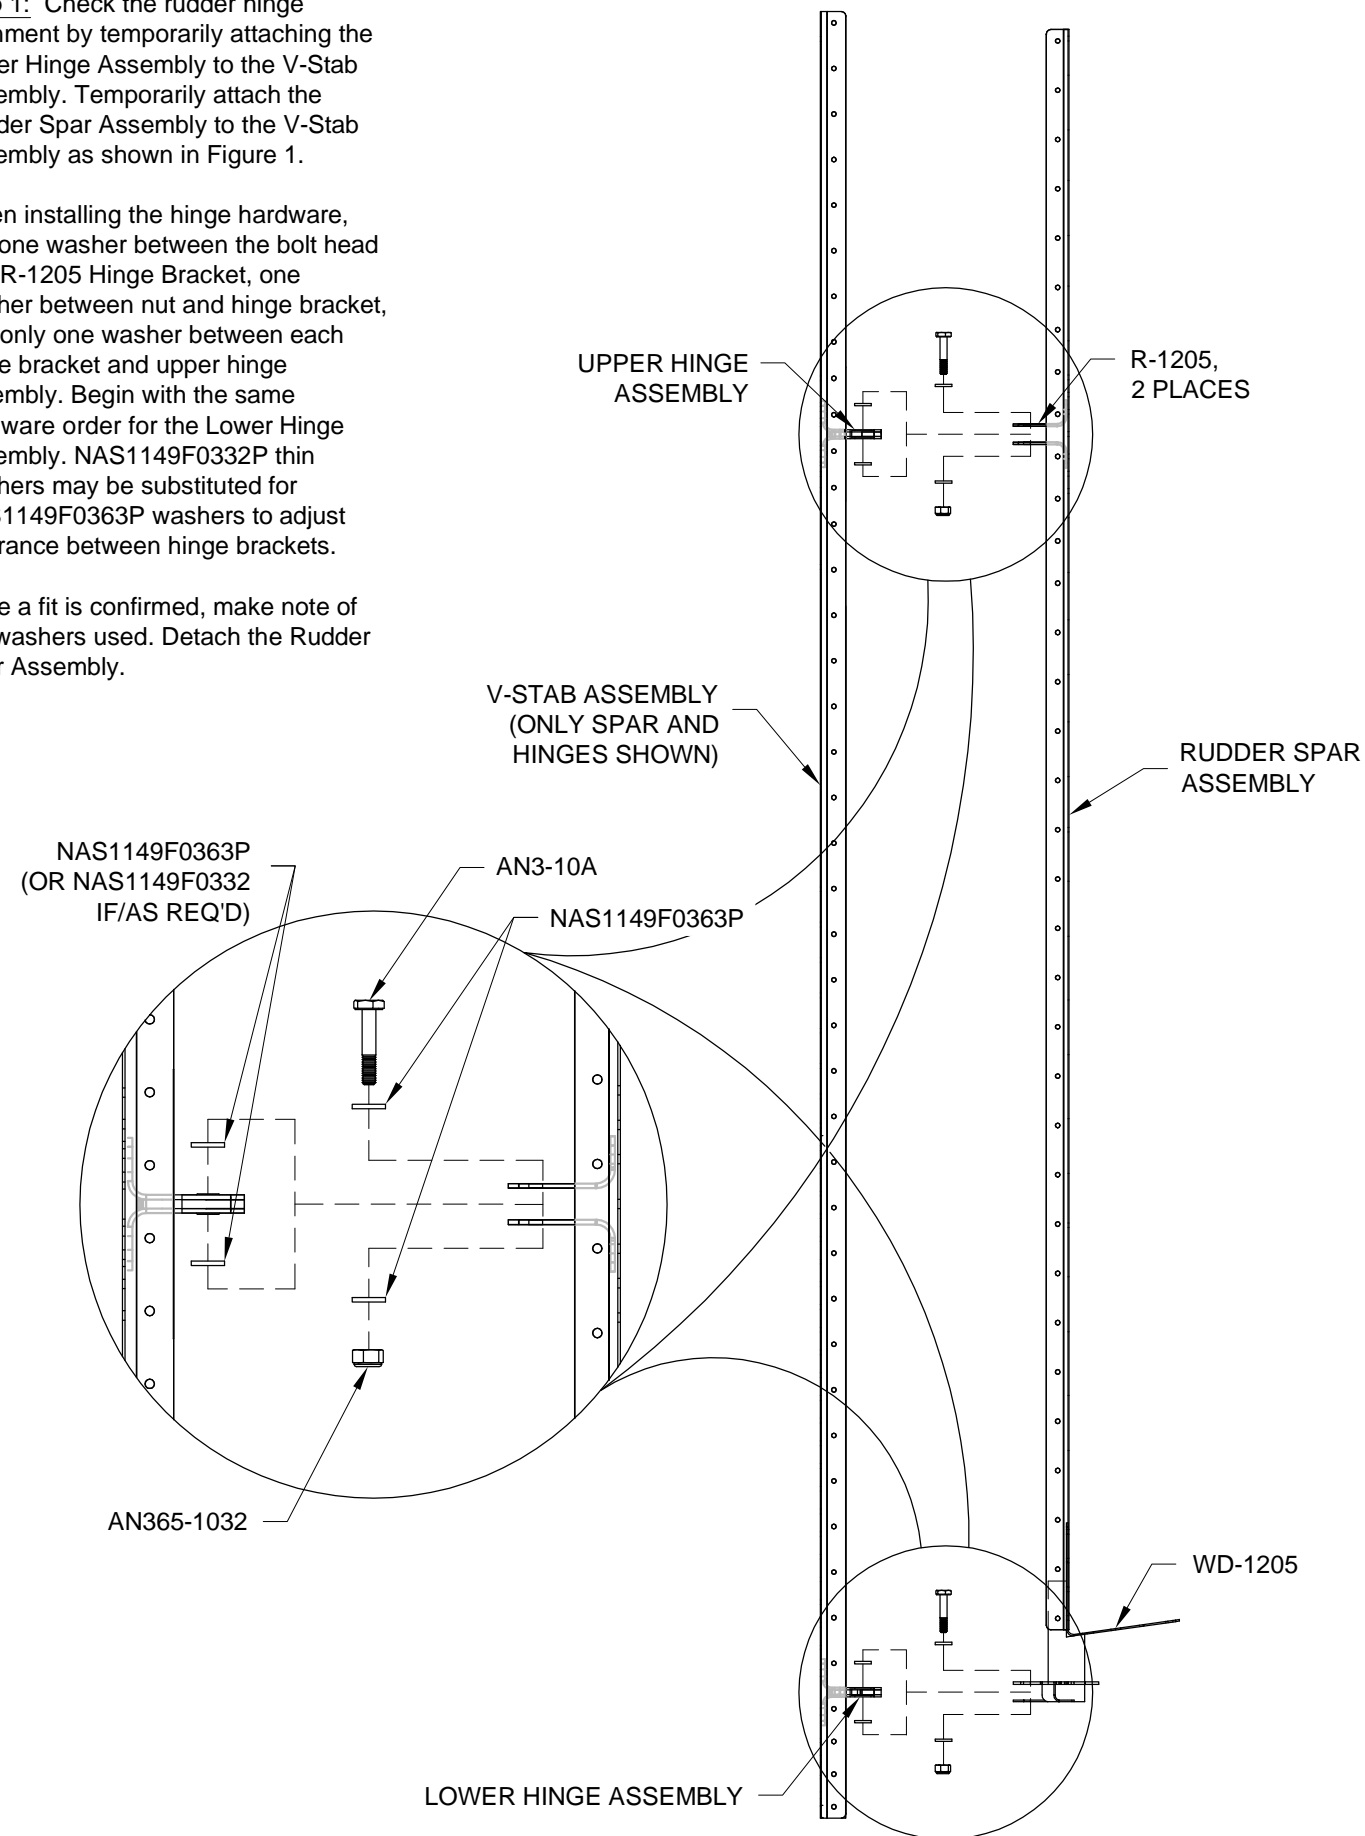

FIGURE 1: CHECK HINGE SPACING
Step 1: Check the rudder hinge alignment by temporarily attaching the Lower Hinge Assembly to the V-Stab Assembly. Temporarily attach the Rudder Spar Assembly to the V-Stab Assembly as shown in Figure 1.